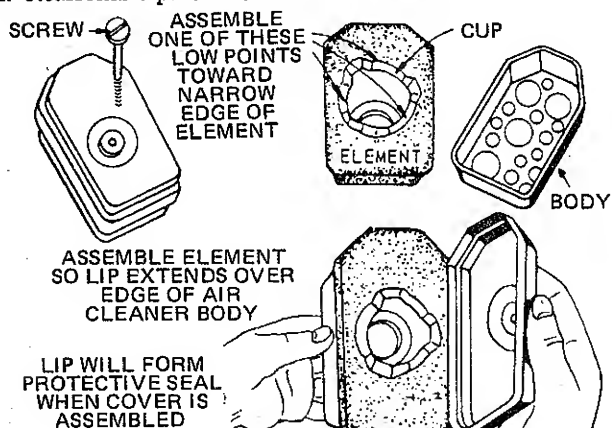

Figure 14
3. Take air cleaner apart and clean. (Figure 14).